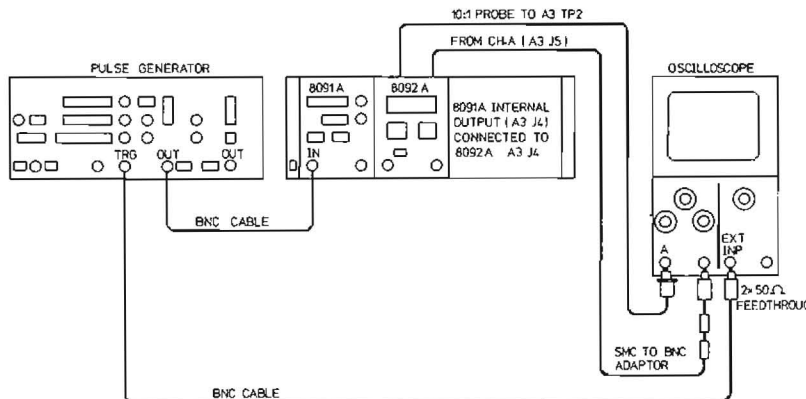

Figure 5-1. Amplifier Adjustment Setup
1. Connect the test equipment as shown in Figure 5-1 and adjust the 8091A TRIGGER LEVEL VERNIER to obtain the gate signal at A3TP2 (8092A).